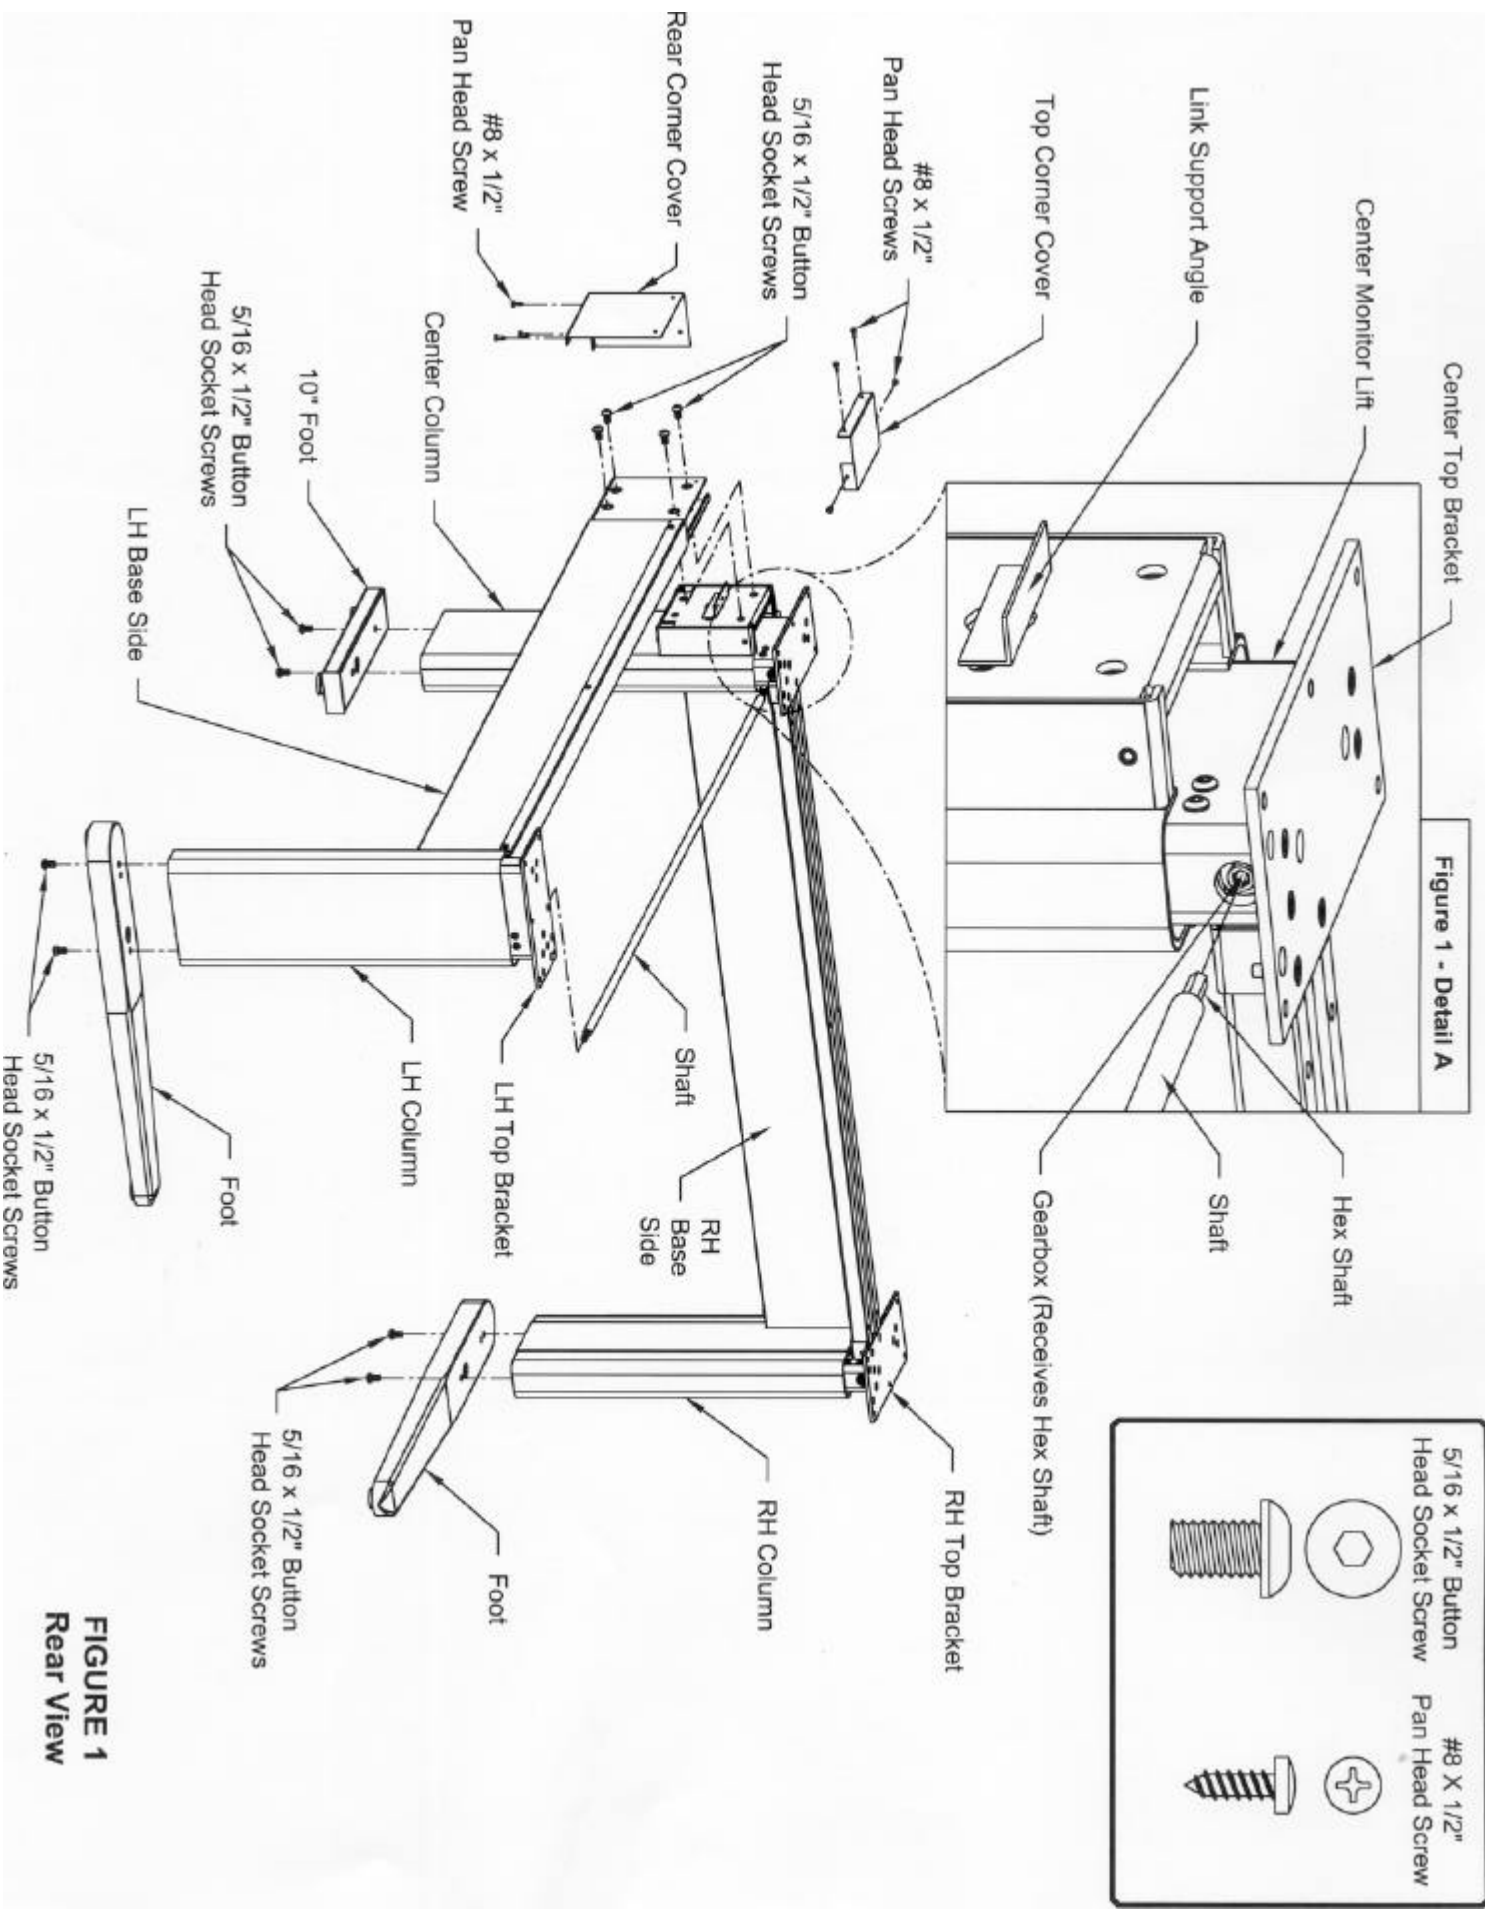

FIGURE 1
1. Attach feet using (2) $\frac{5}{16} \times \frac{1}{2}$ " button head socket screws on each side using outside holes. Ensure that the 10" Foot is positioned on the bottom of the column which has the label on the top bracket. (See Figure 1).
3. Engage the Hex Shaft into the Gearbox on the Right Hand Base and attach Shaft Support Channel to the Base using (2) 10-24 x 5/8" Flat Head Phillips Screws. (See Figure 1) **Ensure that the opposite end of the Shaft Support Channel is supported.**
4. Engage the Hex Shaft into the Gearbox on the Left Hand Base. A slight movement backward and forward of the crank handle, which can be inserted into the monitor bracket with the label, may be necessary. Attach Shaft Support Channel to the Base using (2) 10-24 x 5/8" Flat Head Phillips Screws.
5. Place tops together upside down on clean padded surface. Join sections with (2) Draw Bolts using a 7/16 Open End Wrench in routed slots on underside of tops. Attach (2) Mending Plates over the joint near outside edge of top with (4) #8 x $\frac{3}{4}$ "